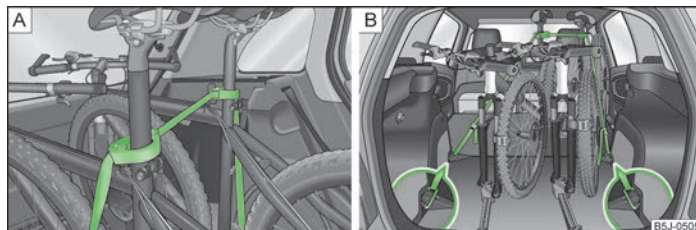

Fig. 59 Securing bicycles
- Position the clamp with the rubber part to the front (in direction of travel) as far as possible below the saddle support and close the clamp » Fig. 59 - [A].
- When transporting two bicycles, clamp the belt » Fig. 59 - [A] between the saddles by moving the bicycles apart.
- Hang the carabines at the ends of the belt into the lashing eyes behind the rear seats » Fig. 59 - [B].